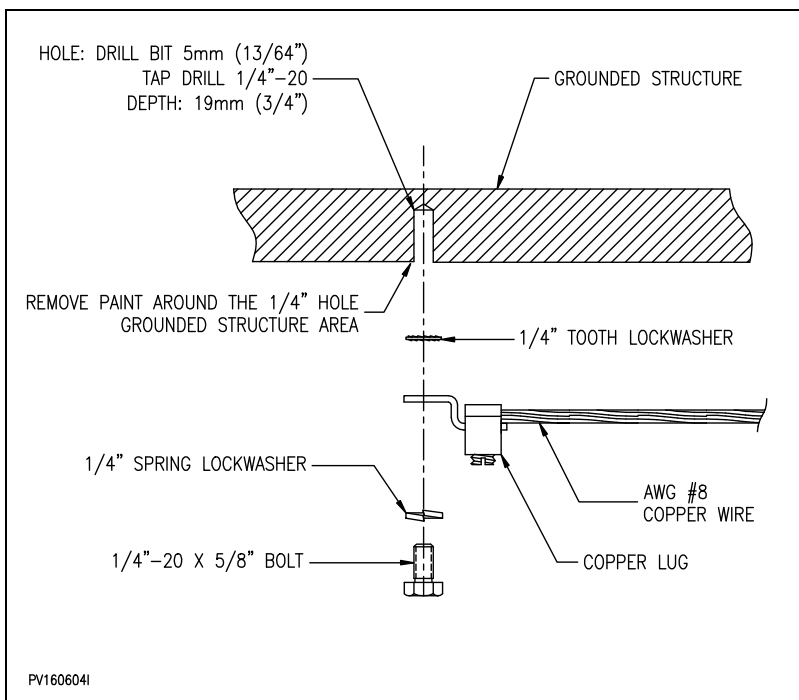

Figure 21 : Fastening the ground wire to grounded structure
2. Fasten the AWG #8 copper wire to the structure according to *Figure 21* : "Fastening the ground wire to grounded structure".